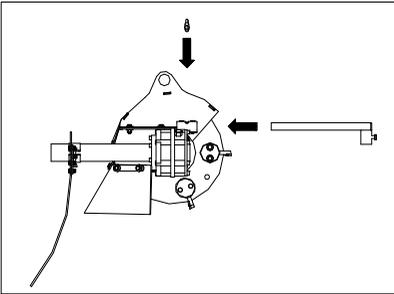

Fig. 5a
- insert the towing bracket and the jockey wheel in their seats and tighten the wing nut and the retaining screws (Figs. 5a and 5b);